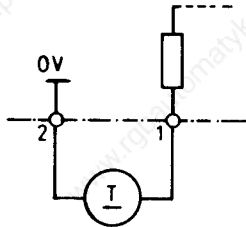

Fig. 5.3.1.1
- Connection as in Fig. 5.3.1.1